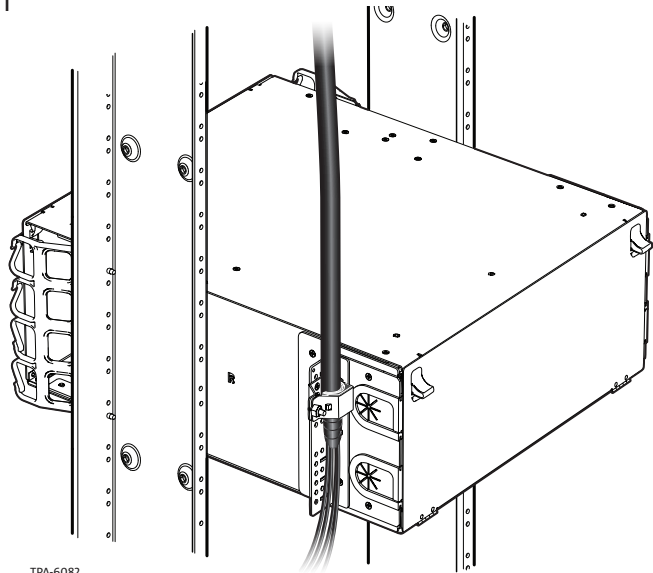

Figure 6
- Step 3:** Attach a universal cable clamp (UCC-001) to the standard external strain-relief bracket and secure the bracket to the appropriate side of the housing using the screws provided (Figure 6).